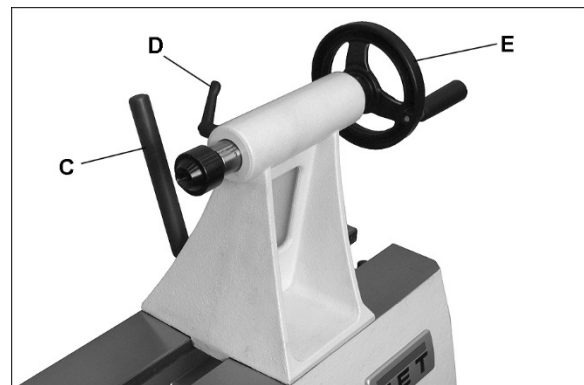

Figure 10
To slide tailstock, push locking handle (C, Figure 10) down toward the bed. Push locking handle upright to lock tailstock in position.
WARNING Make sure tailstock is locked to bed (C, Figure 10) and quill is tightened (E) before turning a spindle on the lathe.